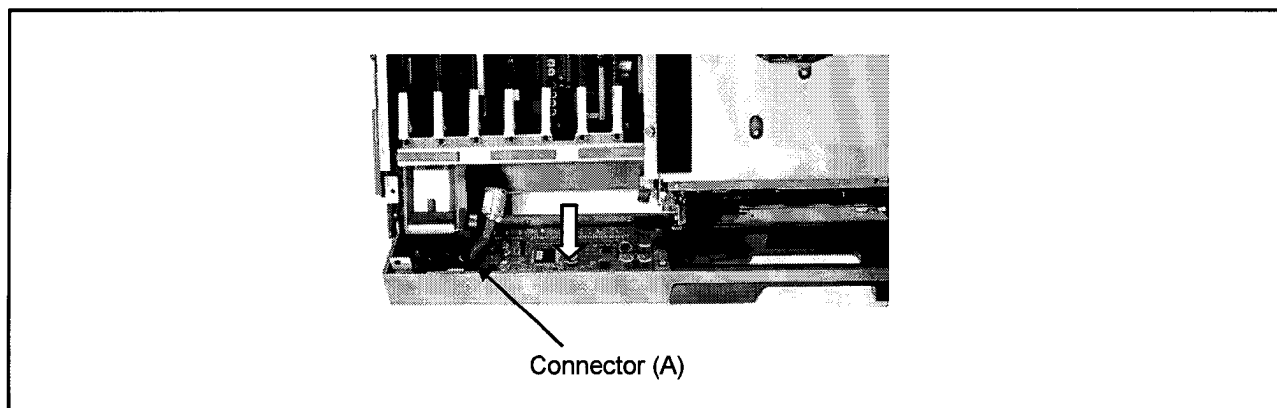

Figure 3-2
4. Pull the Upper Front Panel a little and disconnect the connector (A) as shown figure 3-2.